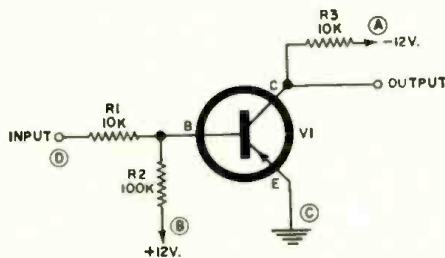

Fig. 4. Typical inverter unity amplifier.
Fig. 4. (A) Cross section of disc electrodes showing how magnetic field produces forces that "pinch" the ionized gas inward. (B) If electrode shape is changed and an opening provided, the pinch effect forces the gas out of the nozzle opening and produces thrust. In this case an additional, external magnetic field is not required at all.
As a concrete illustration of these steps, let's troubleshoot a typical *p-n-p* inverter stage suspected of being defective (Fig. 4). An inverter is a unity amplifier: an amplifier with a gain of 1 whose output is inverted in polarity from the input signal. A "logic 1" signal ( $-7$  v.) applied to the input circuit at the base produces a "logic 0" (0 v.) at the collector; a "logic 0" at the base produces a "logic 1" at the collector. (Digital systems vary in the values and polarities assigned to "logic 1" and "logic 0" signals. The values and polarities cited are typical but not universal.)
The first step in troubleshooting by voltage measurements, therefore, is to determine if correct source voltages are being applied to the stage. This is done by measuring the voltages at A, B, and C in Fig. 4. Assume the applied voltages are found to be correct:  $-12$  v.,  $+12$  v., and 0 v. respectively. A further preliminary check is made at the input, D. Assume the input is  $-7$  v.; the stage should be normally conducting. A voltage check around the electrodes is then made and all three electrodes measure 0 v. This indicates the stage is responding correctly to the applied signal. However, one important test must still be made to verify if the transistor can operate normally: Will the stage stop conducting when no forward bias is applied to the base? In other words, is the transistor shorted?
As a second illustration of troubleshooting procedure, let's assume now that we have the opposite case when voltage checks are made around the stage. Correct supply potentials are present at A, B, and C and a "logic 0" (0 v.) appears at the input (Fig. 4). The stage should, therefore, be non-conducting. Sure enough, the normal potentials for a non-conducting stage are measured around the electrodes: 0 v.,  $+1$  v., and  $-7$  v. at the emitter, base, and collector respectively. As before, the acid test is to determine if the stage can operate in the opposite state. In this case: Will the stage conduct normally with a "logic 1" applied to the input? The "logic 1" can be supplied simply by causing the preceding stage (V1, in Fig. 6A) to be cut off by shorting its emitter to its base. If this procedure is not convenient or possible, a resistor can be bridged from the base of the suspected transistor itself (V2, of Fig. 6B) to the  $-12$ -volt supply while collector voltage is measured. Typical resistor value for this purpose is 10,000 ohms, but a higher or lower value may be necessary, depending on circuit parameters. Collector voltage should drop to 0 v., indicating that the stage is conducting. If the stage does not conduct when forward bias is applied to the base through the bridging resistor, the transistor is probably open.